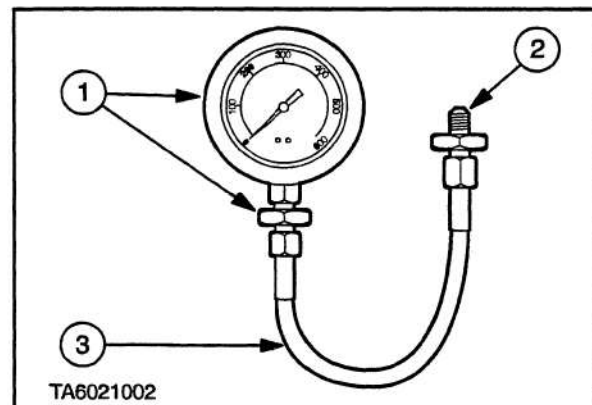

Figure 4-4-11
2. Install suitable pressure gauges, (0–600 lbf/in², 0–40 bar), Figure 4-4-11.